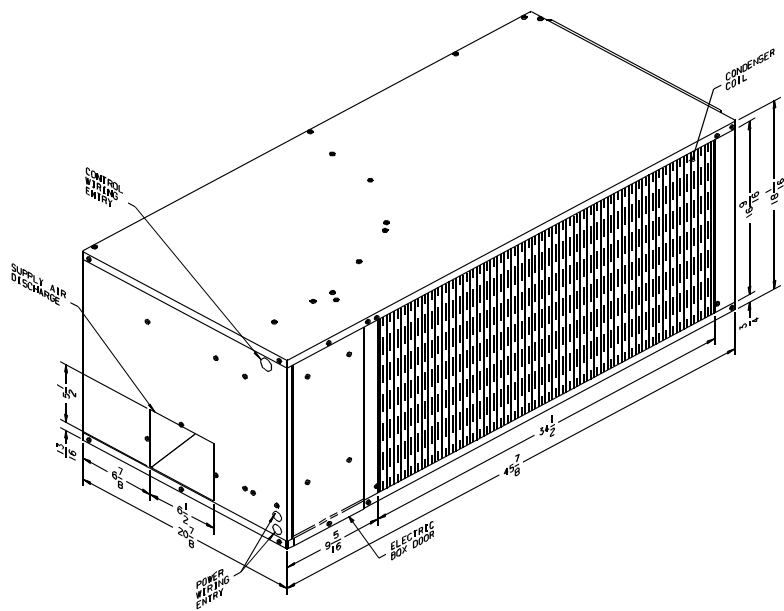

FIGURE 1
The condensing air flow is drawn in through the side of the air conditioner (across the condensing coil), and discharged out through the bottom of the appliance (through the discharge opening). Figures 1 and 2 show the location of both the air conditioner’s condensing coil and discharge air opening.
- 6) Do not install any other heat generating appliance in the same cavity as the air conditioner. Additional heat in this cavity will decrease system performance and equipment life. Overall package dimensions are shown in Figure 1. RV Products requires that a minimum of 4 additional inches be allowed at the wiring
The preferred mounting configuration is the end outlet-side return configuration. Reference Figure 1. This system ducts the cold supply air out the end of the air conditioner while the warm return air is drawn in through the side of the air conditioner. With this configuration, one cut out will be required to match the end opening in the air conditioner and another to match the back opening.
- B) Each circuit high voltage wiring must be routed through a separate opening in the outer cabinet of the wiring box. These openings are referred to as the "power wire entries". See Figure 1. RV Products provides these two openings, each opening is a 7/8" diameter opening.